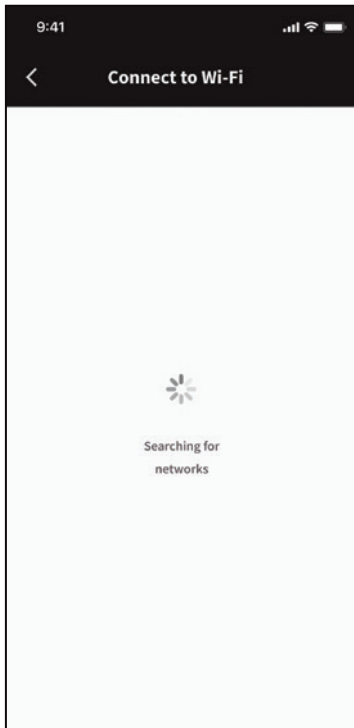

Fig. 31
- e. Select desired Wi-Fi and connect by entering the Wi-Fi password of your home (**Fig. 31 & 32**).